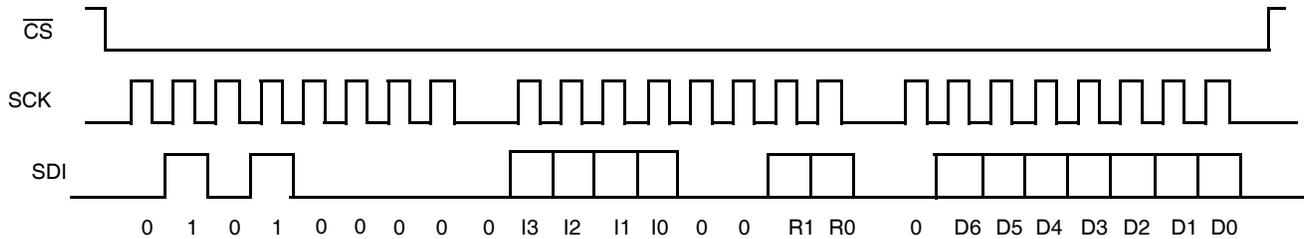

FIGURE 12. THREE BYTE WRITE SEQUENCE
A Write operation to the ISL22419 is a three-byte operation. It requires first, the CS transition from HIGH to LOW, then a valid Identification Byte, then a valid instruction byte followed by Data Byte is sent to SDI pin. The host terminates the write operation by pulling the CS pin from LOW to HIGH. For a write to address 0 (WR), the byte at address 2 (ACR[7]) determines if the Data Byte is to be written to volatile or both volatile and non-volatile registers. Refer to "Memory Description" and Figure 12.